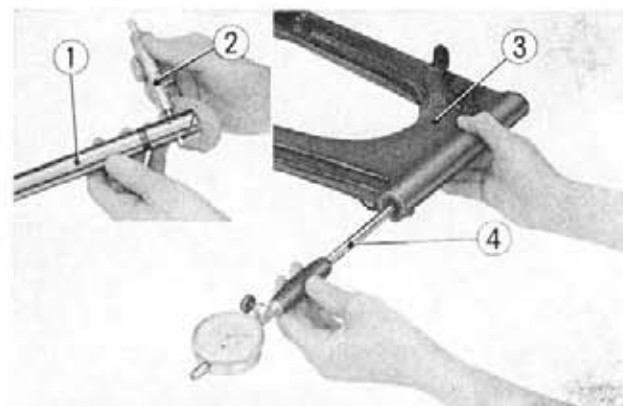

Fig. 12-9
3. Measure the bores of the rear fork pivot bushing with a inner dial gauge and the outside diameter of the center collar with micrometer, and if they are not within the serviceable limit shown below, they should be replaced. (Fig. 12-9)